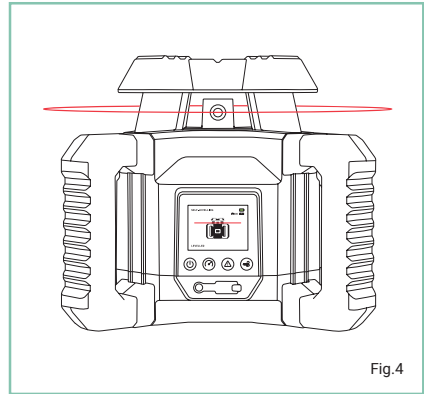
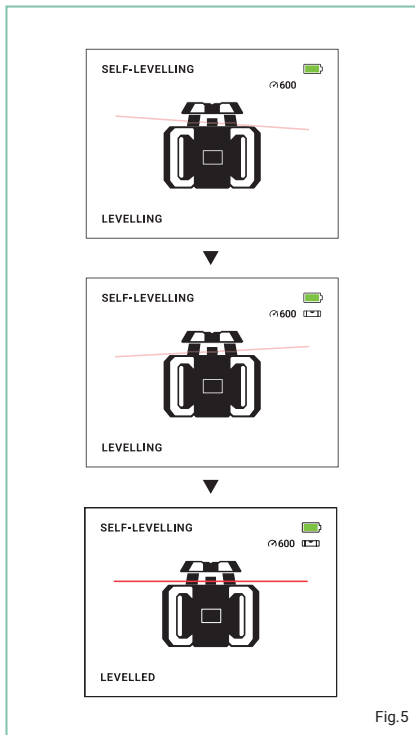

Fig.4
Fig.5
- Press and hold the **power button** and the laser level will power on and begin automatically self-levelling. The LCD screen will display the word 'levelling' while self-levelling is in progress. When this levelling process is complete, the penta prism inside the lighthouse will start rotating (Fig.4). The LCD screen will display the word 'levelled' when self-levelling is complete (Fig.5). When the laser is in the levelled position the following icon will be displayed on the LCD screen on the laser level and remote control: